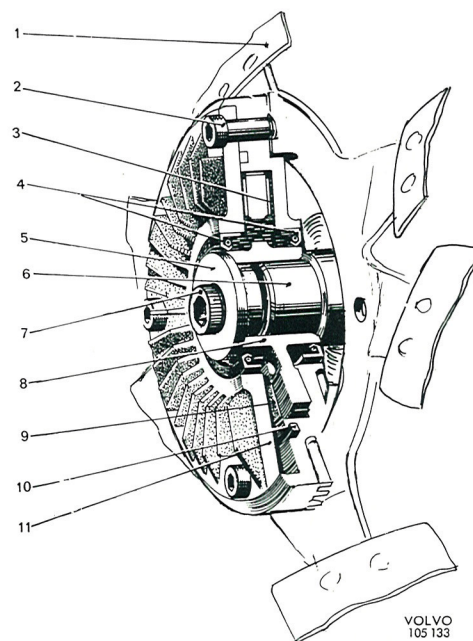

Fig. 2-205. Viscous fan
The fan is a fixed fan or a speed-regulated fan, a so-called viscous type (see Fig. 2-205).
The function of the viscous type is to ensure that the fan blades do not exceed a certain speed even if the engine speed is exceeded. See Fig. 2-205. The six fan blades are mounted asymmetrically to keep down the noise level. The fan coupling consists of the housing (11, Fig. 2-205) in which the fan blades (1) are secured with the bolt (2). The housing (11) has two halves which cannot be separated for repairs, the fan coupling must be replaced as a unit. The hub (8) has a light fit on the water pump flange (6) and is locked by the center bolt (7). The hub is provided with a slip disc of friction material (9) surrounded by oil. During idling and at low speeds, slipping is insignificant, so that the fan provides an air current for good cooling. When the speed (that of the water pump) exceeds about 58 r/s (3500 pm), slipping increases (see Fig. 2-213). With this arrangement the fan speed should never exceed 42 r/s (2500 pm).